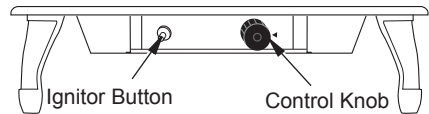

Figure 16 - Control Knob and Ignitor Button Location
4. Wait five (5) minutes to clear out any gas. Then smell for gas, including near the floor. If you smell gas, STOP! Follow "B" in the safety information, column 1. If you don't smell gas, go to the next step.
5. Turn control knob counterclockwise  to the PILOT position. Press in control knob for five (5) seconds (see Figure 16).